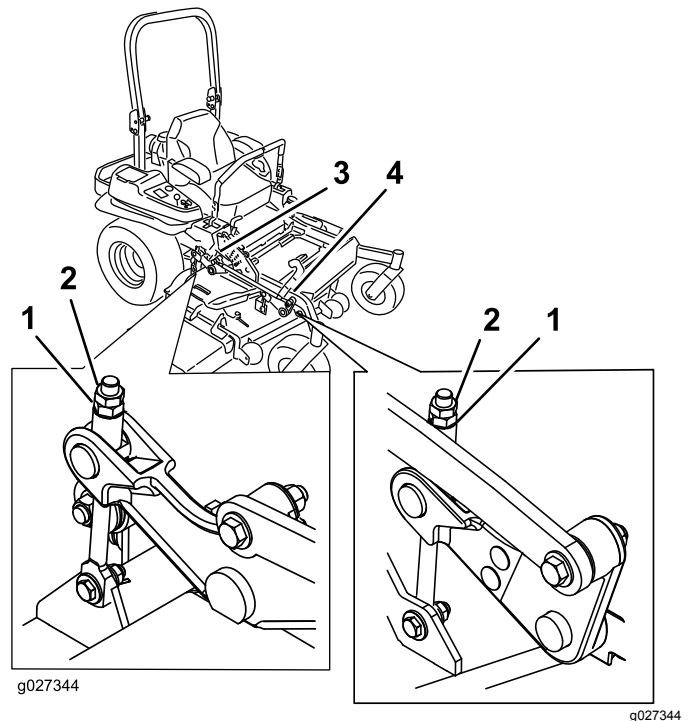

**Figure 91**
- 9. On both sides of the deck, measure from the level surface to the front tip of the blade (Position A) as shown in Figure 91.
15. On both sides of the deck, measure from the level surface to the back tip of the blade (position B) as shown in Figure 91.